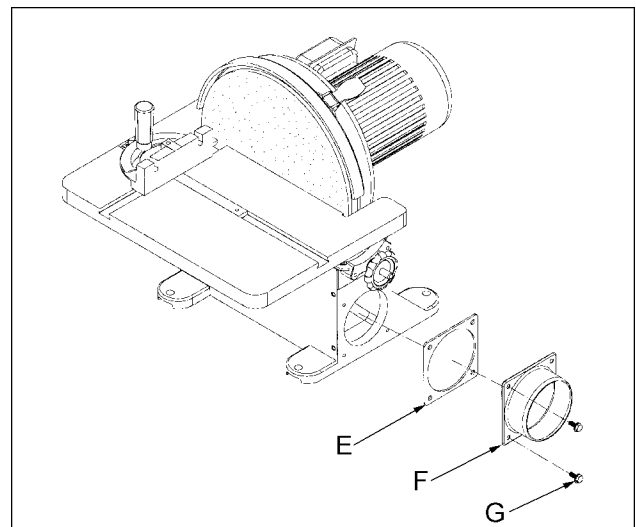

Fig. 3
6. Place the gasket (E, Fig. 3) against the sander base and mount the inlet port (F, Fig. 3) to the sander with *four* M6x16 hex cap bolts (G, Fig. 3).